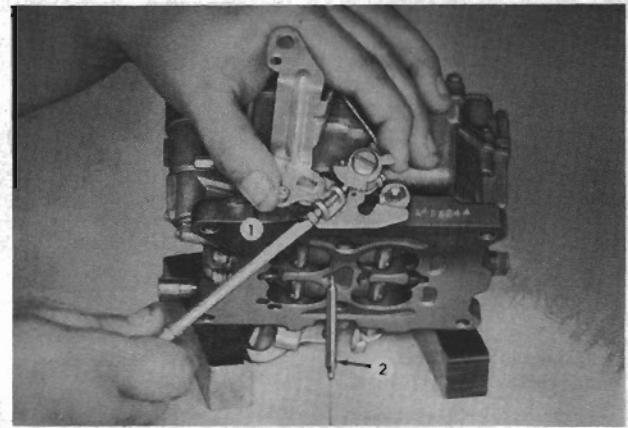

FIG. 104
With the choke valve closed tightly, adjust the fast idle adjusting screw (1, Fig. 104) until the proper clearance is obtained between the primary throttle valve and the throttle bore on the side opposite the idle port. On President Y and Skyhawk models there should be $.024''$ (0.61 mm.) and on Goldenhawk models there should be $.023''$ (0.58 mm.) clearance. Adjust the fast idle adjusting screw (1) so that it just contacts the high step of the cam.